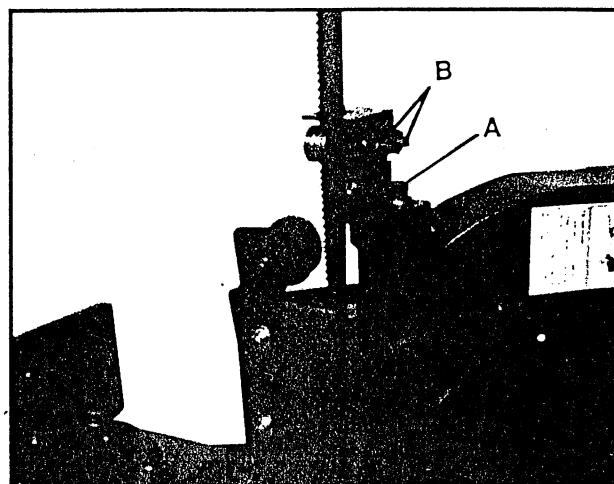

Fig. 14
3. Loosen hex cap screw (A, Fig.14) and adjust assembly so that back roller bearing is approximately .003" - .005" from the back of the blade.